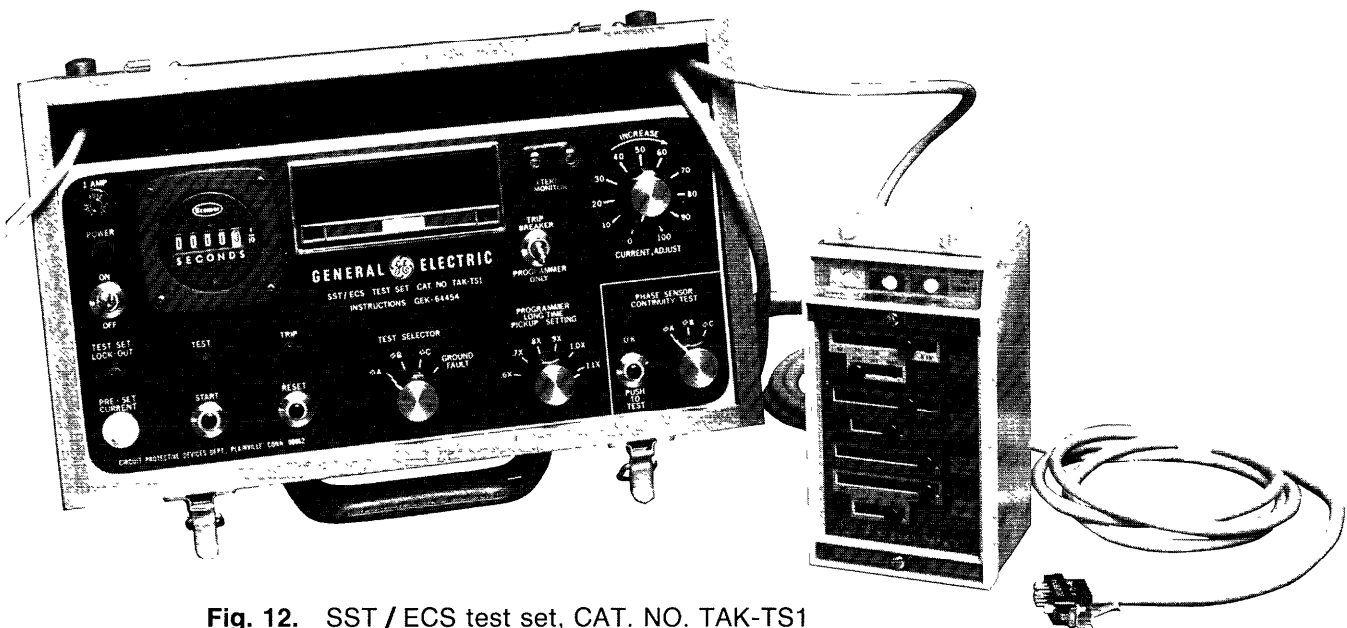

Fig. 12. SST / ECS test set, CAT. NO. TAK-TS1
- Test the components of the SST system using portable Test Set type TAK-TS1 (Fig. 12). The applicable test procedures are detailed in Instruction Book GEK-64454 and are summarized below.